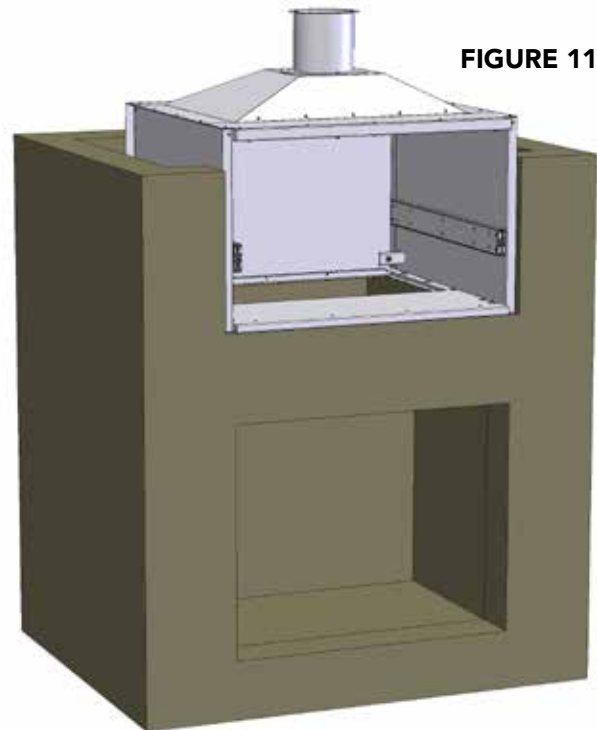

FIGURE 11
2. Build the non-combustible structure without fully closing in the front opening (Figure 11). Ensure the support ledges are built to the proper dimensions (Figure 10). Additional clearance is required at the top of the front opening to install the oven liner. The space can only be closed off after the liner is in position.